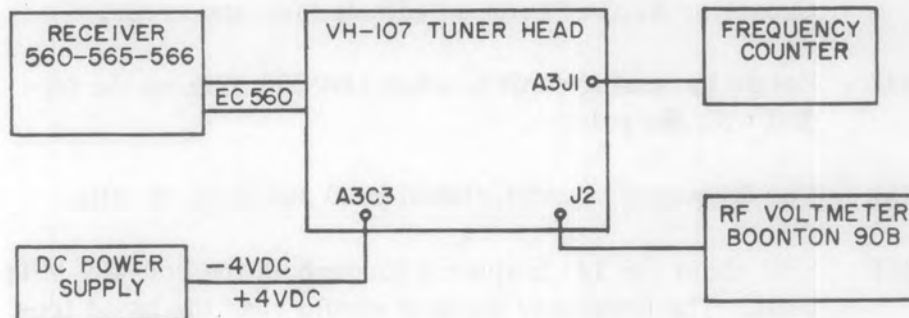

Figure 4-5. Equipment Setup; 160-460 MHz Oscillator Alignment, DAFC Range and Fine Tuning Range Adjustment 4.7.1 through 4.7.1.2
- (1) Connect equipment as shown in Figure 4.5
Connect the equipment as shown in Figure 4-5 and proceed as follows: